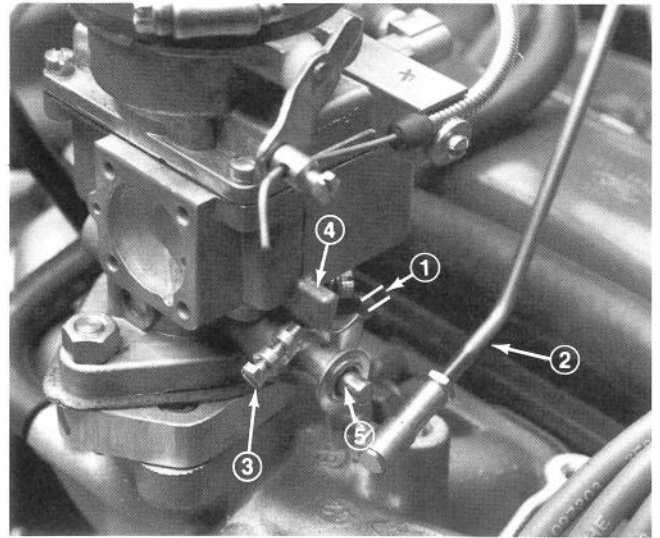

Figure 40
- 1. With engine shut off, move throttle control to FAST position and open hood. Check between the throttle arm and the stop on carburetor base to make sure there is 1/32 inch (0.8 mm) gap (Fig. 40). If gap is not correct, adjust throttle rod (Fig. 40) by turning ball joint ends until gap is 1/32 inch (0.8 mm). If gap is correct, proceed to step 2.
- 3. Rotate throttle arm closed until it contacts stop (Fig. 40).